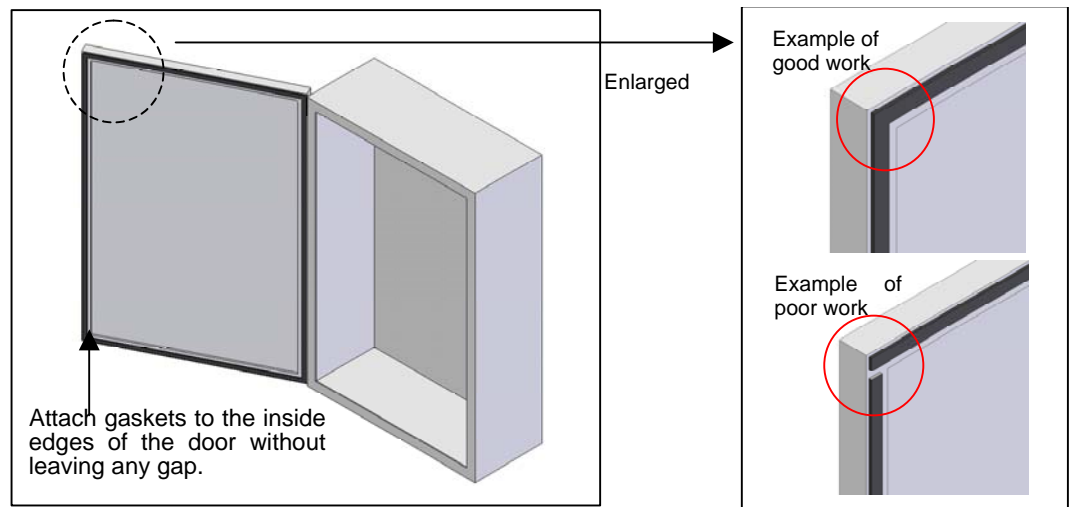

Fig. 6 Sealing doors
- 1) Seal the door, for example, by attaching gaskets to the inside edges of the door (Fig. 6).
- 2) When attaching gaskets, do not leave gaps between the gaskets, especially those at the corner of the door (Fig. 6).